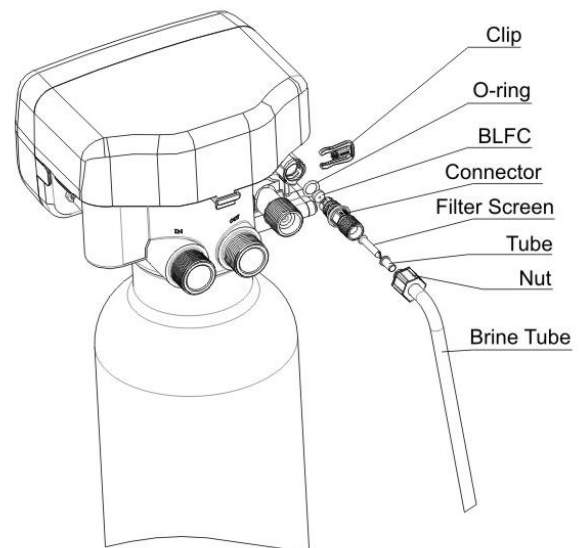

Figure 1-5
- * As Figure 1-5 shows; slide brine nut onto the 3/8" brine tubing.